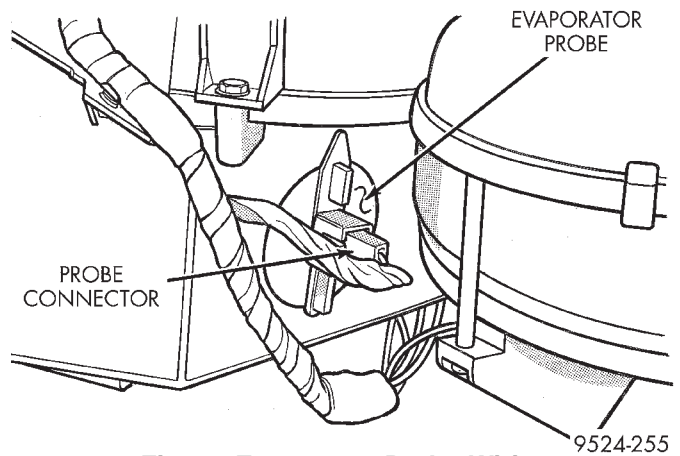

Fig. 41 Evaporator Probe Wiring
- (1) Disconnect battery.
- (2) Remove right under panel silencer/duct.
(3) Disconnect wiring connector for evaporator probe (Fig. 41).